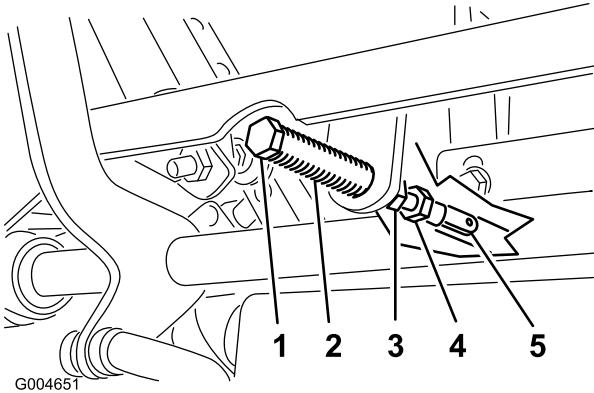

Figure 70
5. Pull the lever back until the clevis pin (on an arm above the pivot shaft) contacts the end of the slot (just beginning to put pressure on the spring) (Figure 70).
7. If adjustment is needed, loosen the nut and jam nut against the yoke (Figure 70).
8. Applying slight rearward pressure on the motion control lever, turn the head of the adjustment bolt in the appropriate direction until the control lever is centered in the neutral lock position (Figure 70).
9. Tighten the nut and jam nut (Figure 70).
- Tighten the jam nuts at the ball joints (Figure 70).